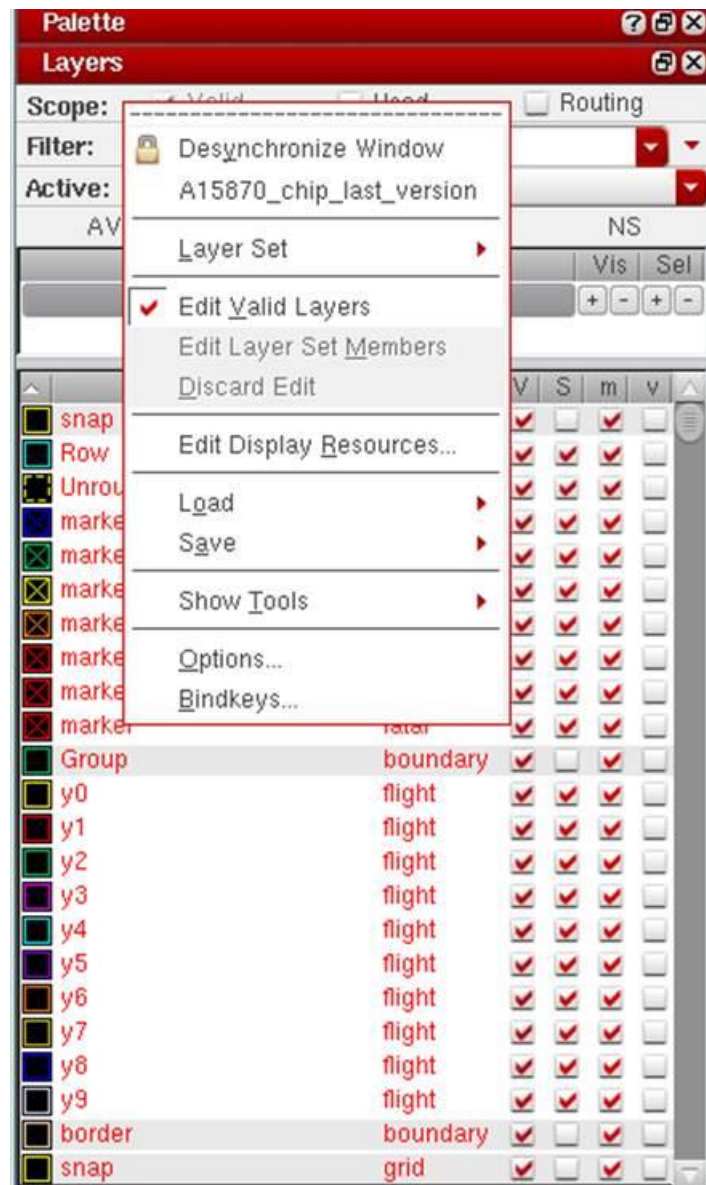

Figure 2: Edit valid layers.
- You need to enable the new layers y0-y5 in the “valid layers” category in order to be able to use them in the bonding diagram, as shown in Figure 2.